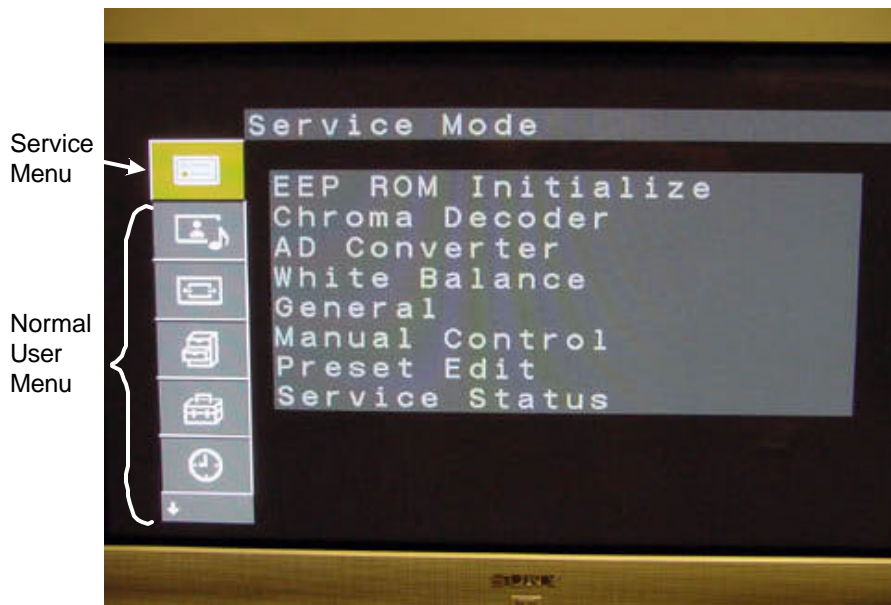

Figure 7-2 - Service Mode Display
3. The following **new** service Mode menu shown in figure 7-2 will appear above the normal user menu. Use the remote control joystick to move and change the data as before. Store the new data by pressing Mute, and then Enter, as before.